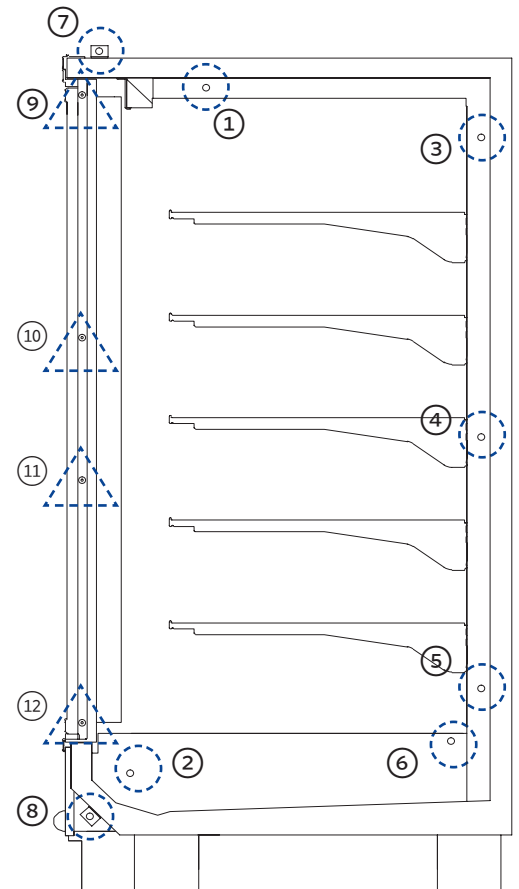

Fig 5. Bolting Location
- Push the cases tightly together, then lightly bolt them together through the holes that are provided. (Fig. 5) Tighten all the joining bolts until all margins are equal.